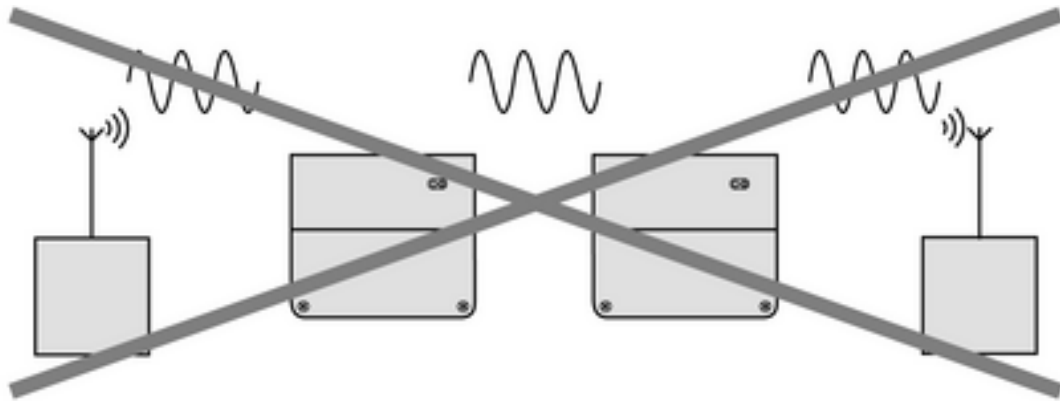

Figure 4
- i** Cascading of repeaters is not possible, i.e. telegrams transmitted by a repeater will not be repeated by another repeater (Figure 4).